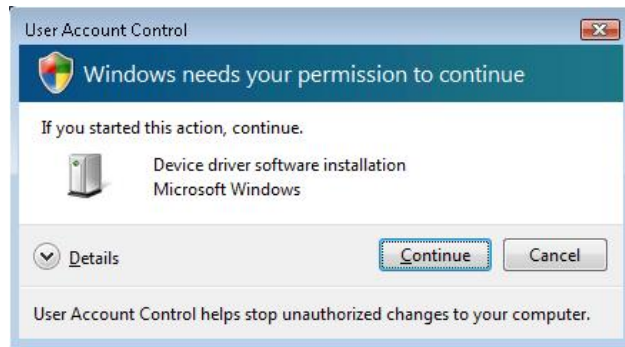

Figure 5.15
3. Click **C**ontinue button in Figure 5.15 and then the below screen appears.